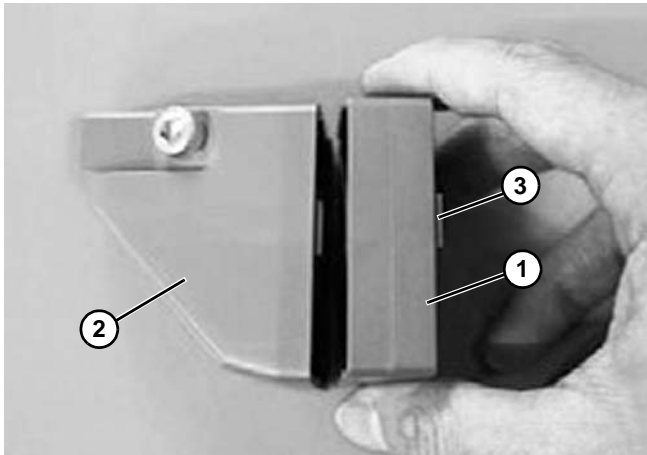

Figure 97
1. Attach the spacer (Figure 97, item 1) onto FGRF- 42x18V (Figure 97, item 2) and install correct length T-bolt (Figure 97, item 3).